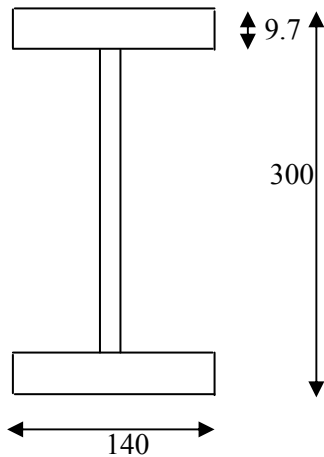

Figure 1
- Q 2 (a) Locate shear center of a semicircle section having thickness "t" and radius "R". (07)
(b) An ISMB 300 x 140 beam as shown in figure 1 carries at a certain section, a bending moment "M", the trace of the plane of loading being inclined at 15° to the y axis. If, $I_{xx} = 8606 \text{ cm}^4$ and $I_{yy} = 453.9 \text{ cm}^4$, Find "M" if permitted bending stress is 120 MPa. (07)
- (b) A beam of size 600 x 400 mm is subjected to a bending moment of 10 kN m at an angle 60° wrt axis. (i) Locate the Neutral axis and (ii) find stresses at all corners. (07)
- Q.3 (a) The vertical shear action on an ISMB 300 x 140 beam as shown in figure 1 is 75 KN. Find the shear flow and shear center of the section. Assume thickness in flange as 9.7 mm and thickness of web 6.7 mm. $I_{xx} = 8606 \text{ cm}^4$ and $I_{yy} = 453.9 \text{ cm}^4$. (07)